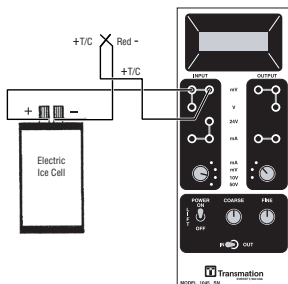

Figure 2-11a
1. Make the necessary connections between the Model 1045, the ice cell and the thermocouple (see Figures 2-11a and 2-11b below). Note that the red T/C lead is negative and the color-coded T/C lead is positive.